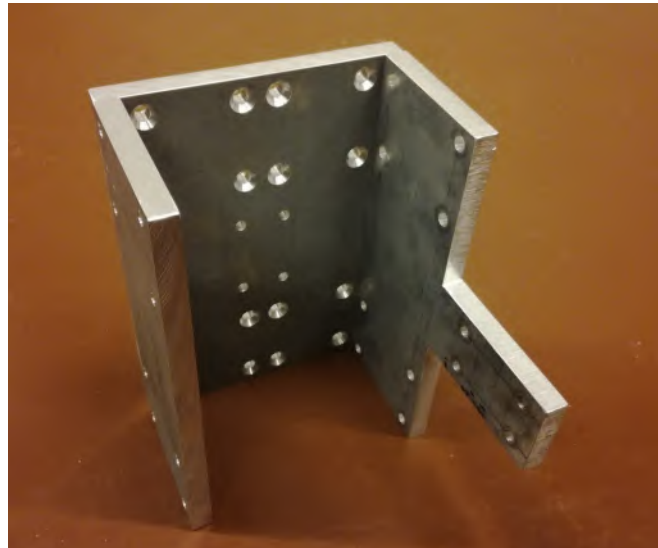

Figure 27: Assembled plates 5, 6 and 7
11.2. Connect plate 6 with plate 7 using the M5x30 screws. The assembled setup should look like in Figure 27.